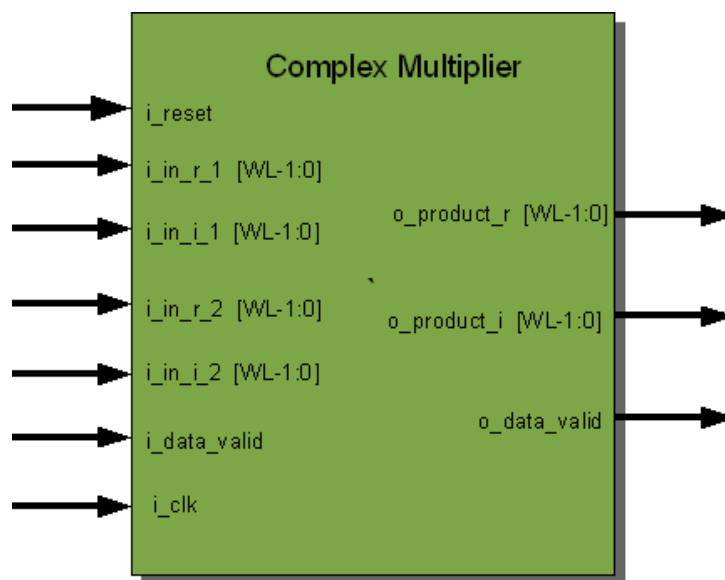

Figure 3: Complex Multiplier Schematic Diagram
7. Figure.3 shows schematic diagram of complex number multiplier. It shows all input and output ports along with their data width.